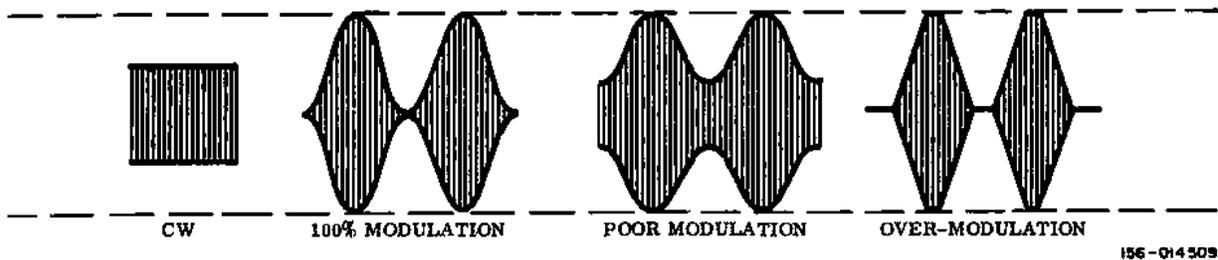

Figure 6-4. Modulation Waveforms.
d. Whistle into the microphone and adjust the audio gain control R410 until the carrier is reduced to zero, but not actually broken between each cycle of superimposed audio. If the carrier is 100-percent modulated (figure 6-4), the oscilloscope amplitude will exactly double. The ratio of increased amplitude to carrier amplitude is a measurement of the modulation per-